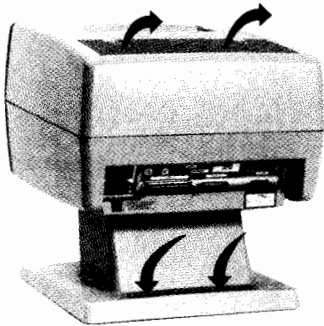

Figure 2-2. Cooling Airflow Through The Terminal
- 1. Place the terminal on any sturdy, convenient surface such as a desk, table, or stand designed for such a purpose. Avoid plush or spongy surfaces that might restrict the flow of air through the vents in the base of the terminal (figure 2-2). For example, do not use a typewriter pad beneath the terminal.